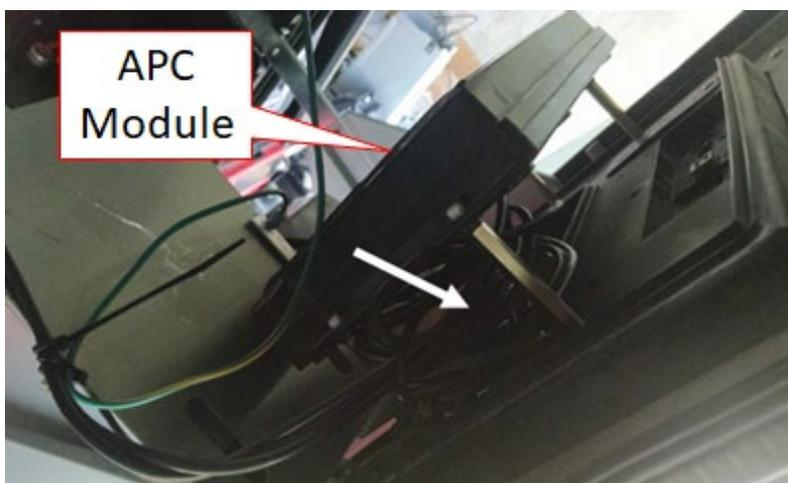

Figure 255
23) Identify all remaining printer cable slack and secure with provided cable tie (006-8616073). See Figure 255.